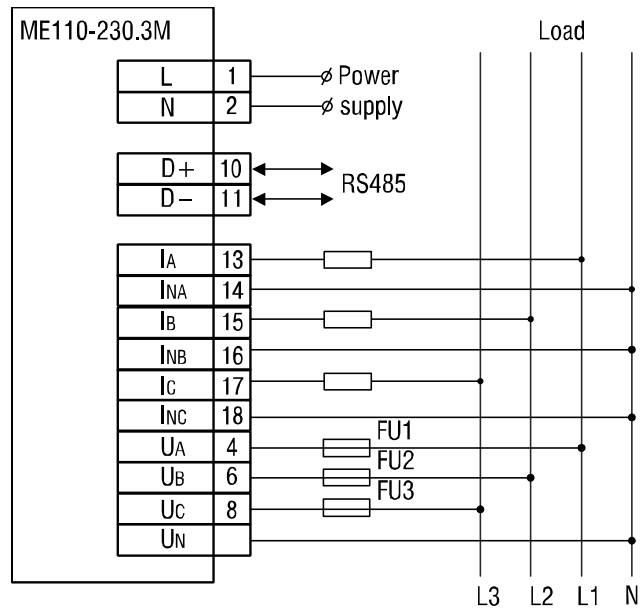

Fig. 5.1 3-phase, 4-wire Wye, Direct connection
- The inputs should be wired in accordance with Fig. 5.1–5.2.